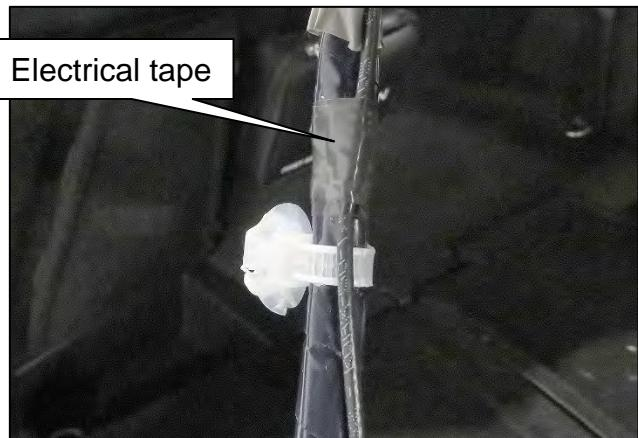
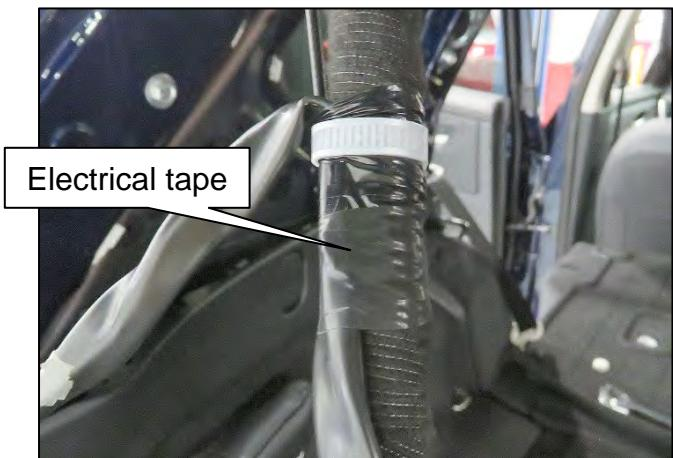

Figure 17
Figure 18
28. Tape the new Coax Cable to the wiring harness in three (3) additional places.
- Two (2) points next to the harness clips (Figure 17 and Figure 18).